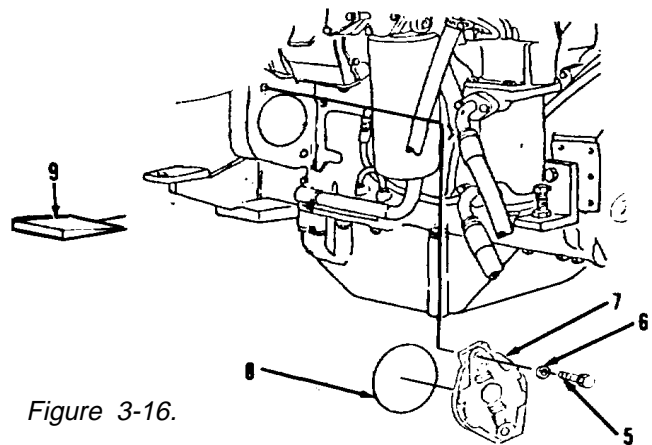

Figure 3-16.
2. Disconnect hose assembly (4) from fuel priming pump and move away from front cover (7).
3. Install spacer (9) to each side of engine between oil pan plate and the engine block.
4. Remove two bolts (5), washers (6) and cover (7, Figure 3-16).
5. Remove and discard preformed pack-in (8) from front cover (7).